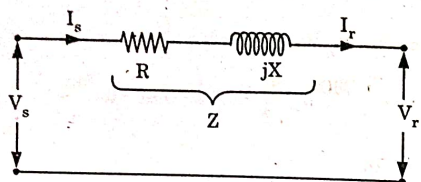

Fig. 2.22.1. Short transmission-line model.
- From the equivalent circuit of Fig. 2.22.1,
2. From Fig. 2.22.1, we can write